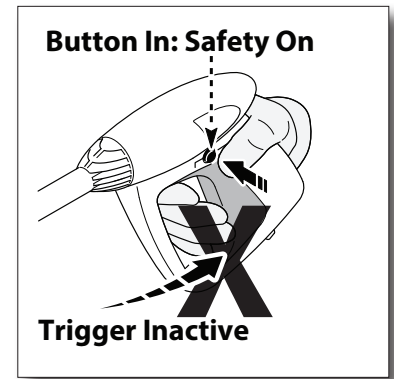

Fig.19
- Release the safety lock button on the spray gun by pressing the safety lock button from right to left (**Fig. 19**). While pointing the spray gun in a safe direction, squeeze the trigger on the spray gun until there is a steady stream of water, letting the water and air out of the hose.
- Turn the power switch to the 'ON' (I) position. The unit will turn on for 1 - 2 seconds and shut off, this is a normal function of the (TSS) auto start feature. Squeeze the spray gun trigger to begin pressure washing.